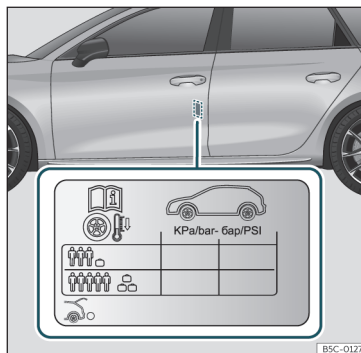

Fig. 212 Location of the tyre pressure sticker.
- Adjust tyre pressure to the load being carried by the vehicle»» Fig. 212.
The tyre inflation pressures are listed on a sticker on the rear of the front left door frame»» Fig. 212.
The tyre pressure must be adjusted according to the load the vehicle is carrying. If the vehicle is going to carry the maximum load, the tyre pressure should be increased to the maximum value indicated on the sticker »» Fig. 212.
In the case of a minimised temporary spare wheel (125/70 R16 or 125/70 R18), inflate to a pressure of 4.2 bar as indicated on the tyre pressure label»» Fig. 212.
tyre pressure is indicated on the label >>> Fig. 212.
- When the tyres are cold, tyre pressure should be that indicated on the label >>> Fig. 212.